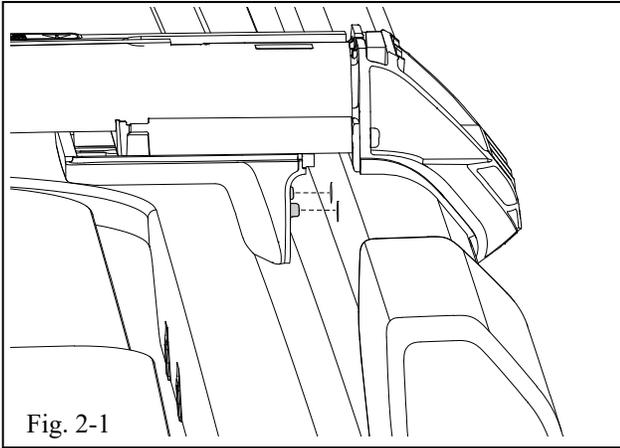
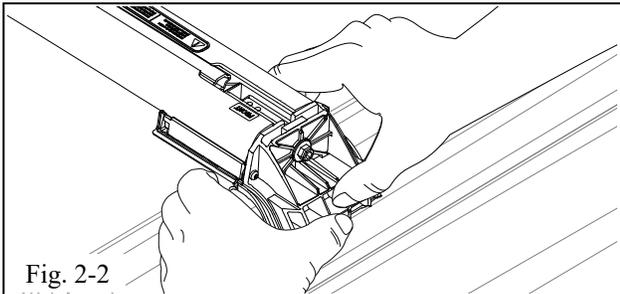

Fig. 2-1
Fig. 2-2
- (a) Align the pins on the cross bar with the holes in the rail (Fig. 2-1) Use both hands to close the clamp closed around the rail making sure the pins are inserted into the holes on the rail. (Fig. 2-2).